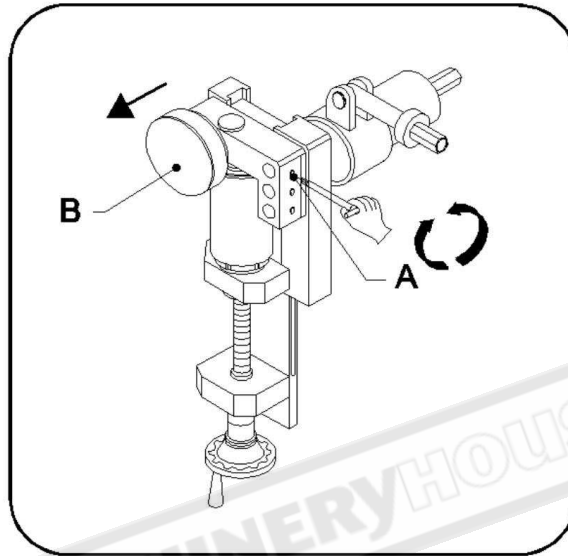

figure 1
- loosen the set screws (A) by turning it to counter-clockwise
- Change the position of the reinforcing wheel by pulling towards the arrow as shown in figure 1